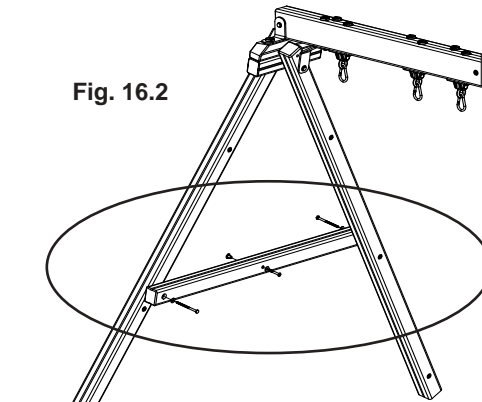
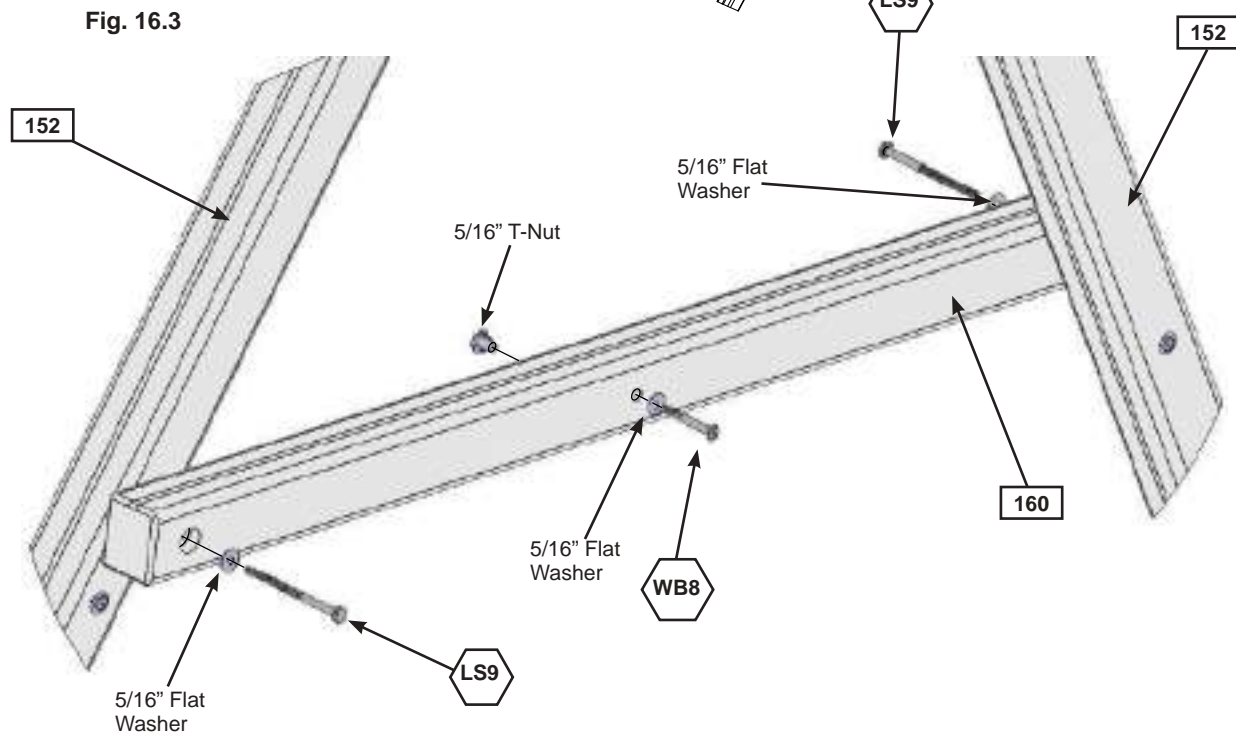

Fig. 16.2
Fig. 16.3
**B:** Place (160) Support Cross between (152) SW Posts at the previously determined spot and fasten with 1 (LS9) 5/16 x 4-3/4" Lag Screw (with flat washer) per side. (fig. 16.2 and 16.3) **Notice one side is fastened on the outside and one on the inside. It is important that each side is positioned exactly the same as the diagram. (fig. 16.3) Tighten the lag screw when you are sure (160) Support Cross is level.**
**C:** Attach 1 (WB8) 5/16 x 2-3/8" Wafer Bolt (with flat washer and t-nut) to (160) Support Cross through the middle hole. (fig. 16.2 and 16.3) **IMPORTANT! MAKE SURE THE BOLT IS ATTACHED TO MINIMIZE CHECKING OF WOOD.**